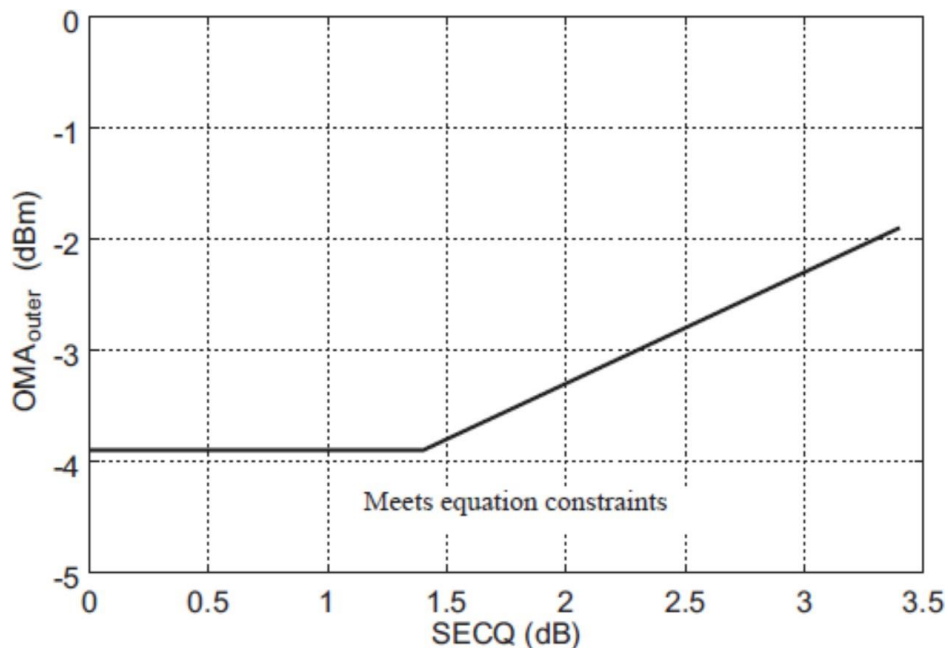

Figure 4. Illustration of Receiver Sensitivity Mask for 400G-DR4
6. Receiver sensitivity (OMA_{outer}), each lane (max) is informative and is defined for a transmitter with a value of SECQ up to 3.4 dB. It should meet Equation (1), which is illustrated in Figure 4.